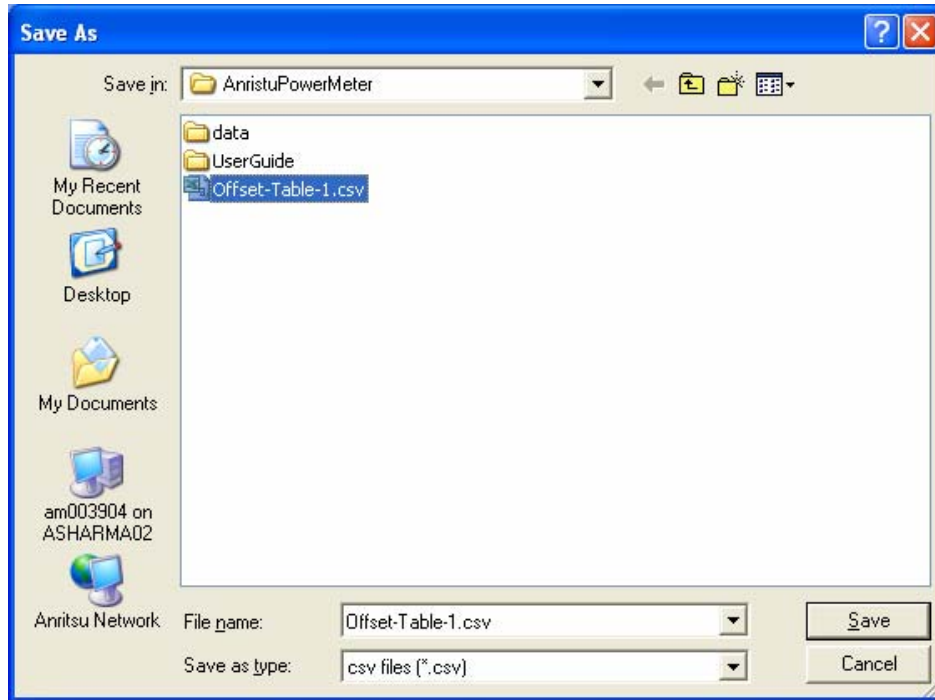

Figure 3-15. Save As Dialog
5. Save the response of the device by clicking **Save** from the Offset Entry Screen and save as a file in the directory of your choice (see Figure 3-15). Any number of device responses can be stored. The files are stored as comma separated value files (.csv).